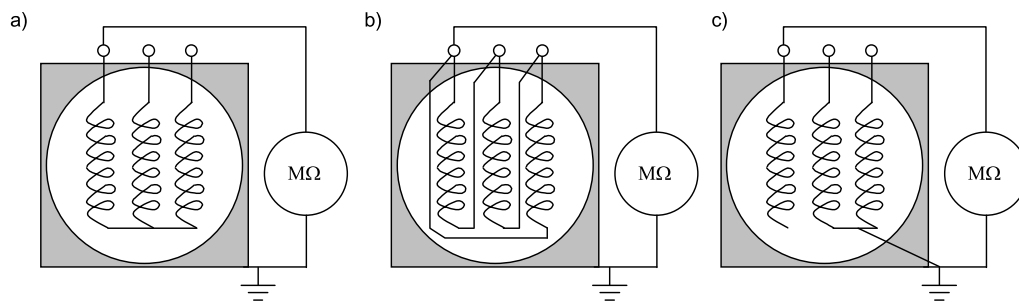

Figure 37 Connections of the stator windings for insulation resistance measurements
- Check that the secondary connections of the current transformers (CT's), including spare cores are not open. See Figure 37 Connections of the stator windings for insulation resistance measurements.
The insulation resistance measuring should be carried out in the terminal box. The test is usually performed to the whole winding as a group, in which case the meter is connected between the frame of the machine and the winding; See Figure 37 Connections of the stator windings for insulation resistance measurements. The frame is earthed and the three phases of the stator winding remain connected at the neutral point, see Figure 37 Connections of the stator windings for insulation resistance measurements.
If the measured insulation resistance of the whole winding is lower than specified, and the phase windings can easily be disconnected from each other, each phase can also be measured separately. This is not possible for all machines. In this measurement, the tester is connected between the frame of the machine and one of the windings. The frame and the two phases not measured are earthed; see Figure 37 Connections of the stator windings for insulation resistance measurements.